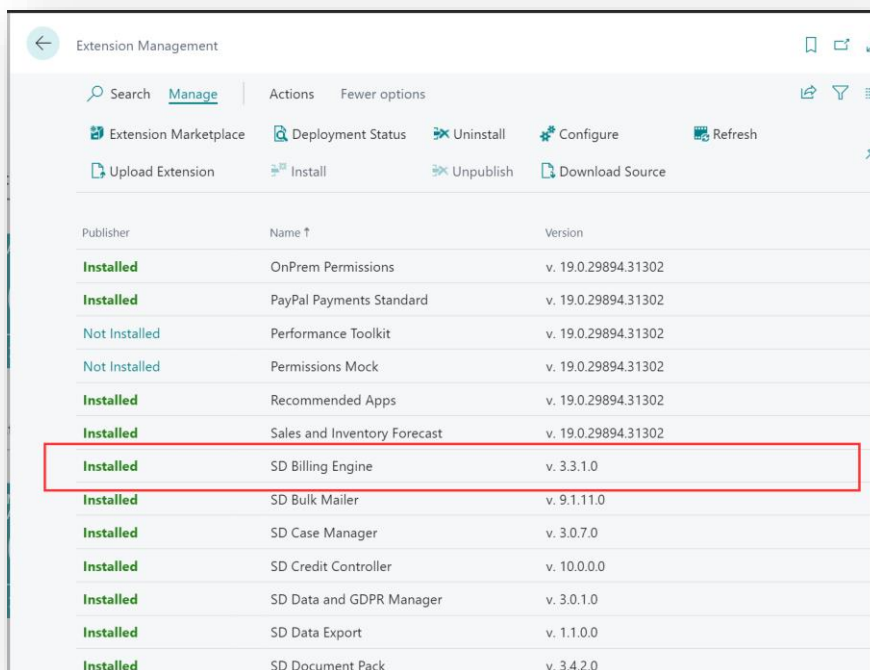

Figure 4-3
2. In the **Extension Management** list, you should see the **SD Billing Engine** App installed (Figure 4-3).